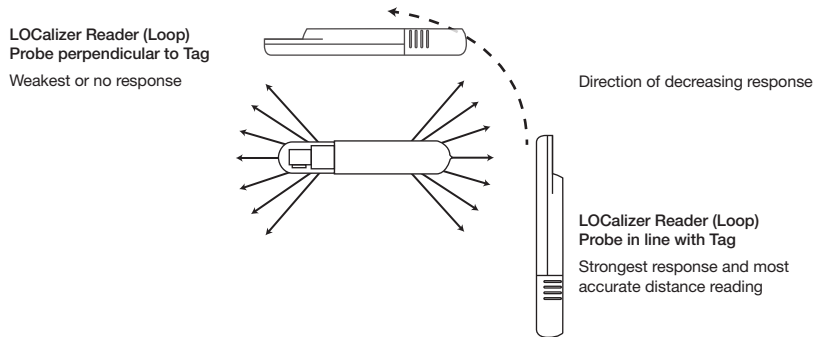

Figure 3. Assessing Tag location/position with Loop Probe using signal strength (not to scale)
\* As measured from center of the Loop probe to end of Tag (Figure 3)
**NOTE:** The sound and distance display rise to a maximum when the Tag is in line with and directly under the sensing head surface (Figure 3). Identification of the Tag location can be refined by moving the Probe until both ends of the Tag are detected.